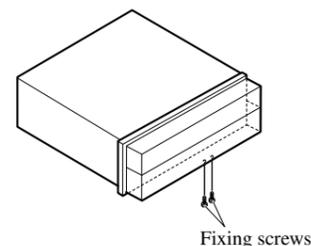

Fig. 17
- **Fix the front panel to the unit using fixing screws. (Fig. 17)**